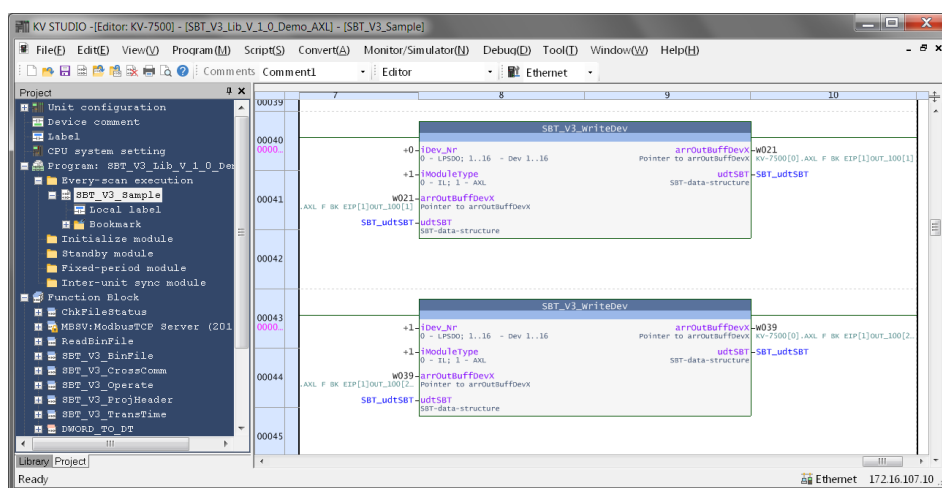

Figure 4-24 SBT_V3_WriteDev function blocks
- Connect the function blocks as shown in Figure 4-24.